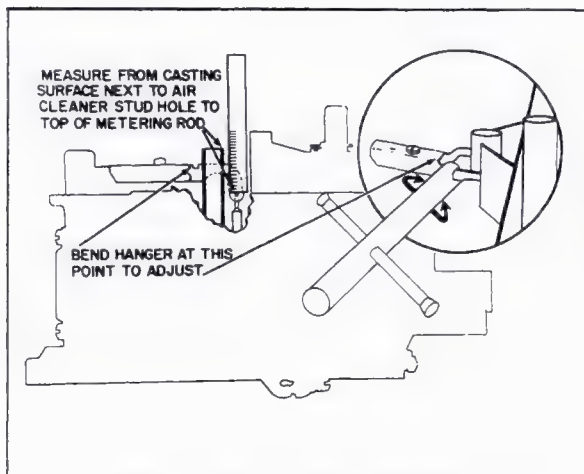

Fig. 6-85 Secondary Metering Rod Adjustment
**88. Secondary Metering Rod Adjustment (Fig. 6-85)**
1. To check secondary metering rod adjustment, measure from top of metering rod to top of air horn casting next to air cleaner stud hole, as shown in Fig. 6-85. This dimension should be .840 or approximately 27/32 for all carburetors.
2. If adjustment is necessary, bend metering rod hanger with pliers at point shown in Fig. 6-85. Make sure both rods are adjusted to same dimension.